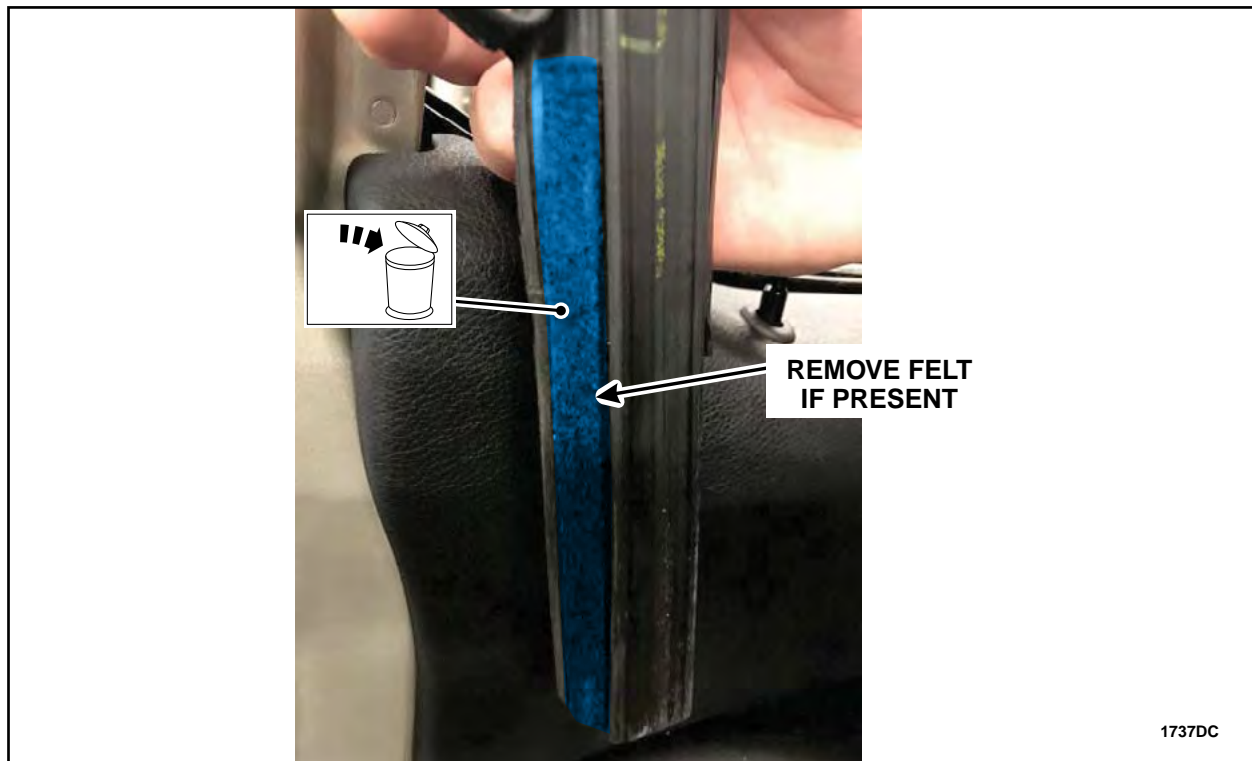

FIGURE 69
11. If present, remove and discard the felt on the rear door glass top run. See Figure 69.